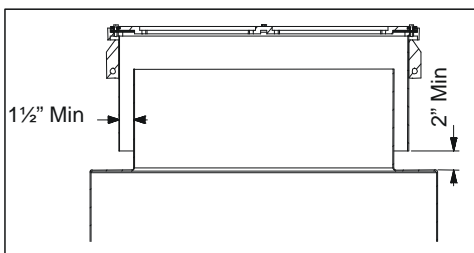

Figure 3
**Note:** It is strongly recommended that manhole covers be installed with the following minimum clearances. Sheet metal skirts should have adequate clearance between the tank sump riser sidewall and/or the sump top hat. A minimum of one and a half inches clearance on all sides is recommended between the manhole skirt and the tank sump wall or the sump top hat wall. A minimum of two inches clearance is recommended between the bottom of the manhole skirt and the horizontal surface of the tank sump or sump top hat. These clearances are recommended to allow adequate water migration away from the sumps. Great care should be used to maintain the recommended clearances when setting the rings and pouring the concrete. (See Figure 3.)